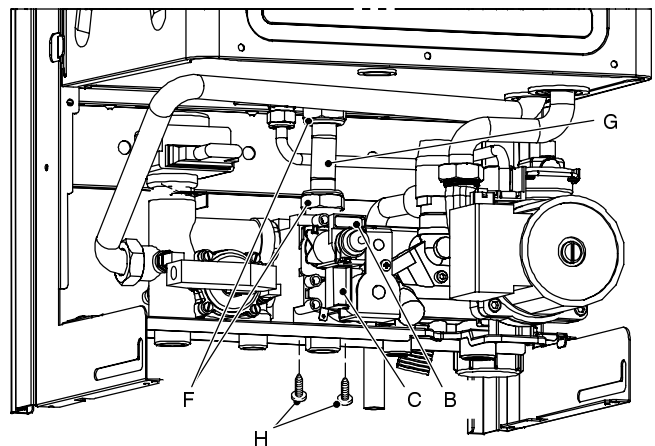

Fig. 48
- 2 Disconnect the connectors *B* (Fig. 48) from the modulating operator and measure the electrical resistance of the coil. Its electrical resistance value must be approx. 80  $\Omega$ \*.
- 2 Disconnect the electrical connector *C* (Fig. 48).
- 2 Disconnect the connectors *B* and *C* (Fig. 48).